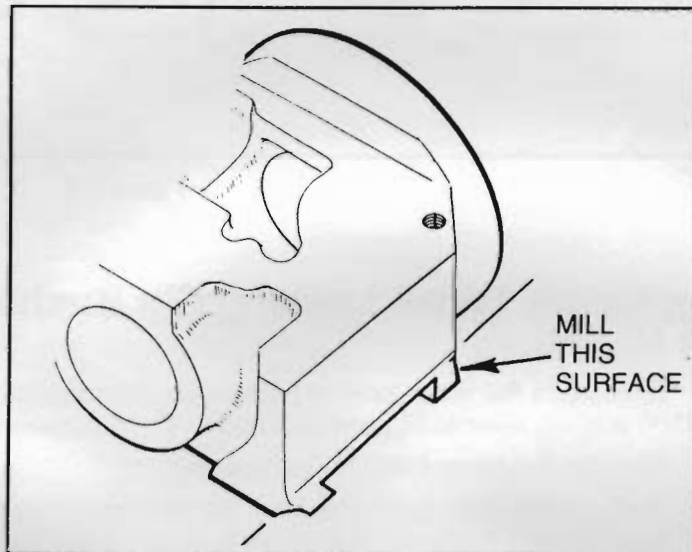

Figure 6-1
2. Set the slide up in a milling machine and take a light cut across front face of turret slide (Figure 6-1), to insure a clean, smooth, sharp surface.